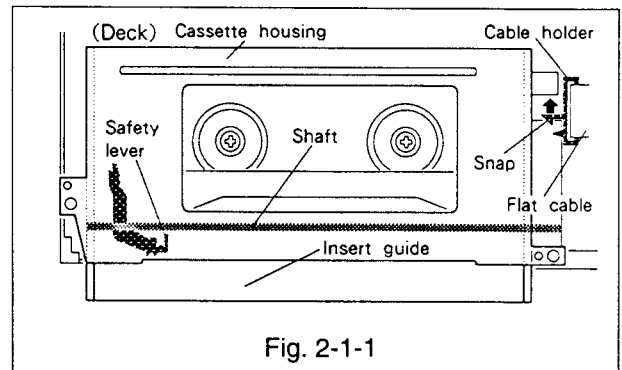

Fig. 2-1-1
2-1-1 Removal(Refer to Fig. 2-1-1~2-1-2.)
- Unfasten the snap of the cable holder and remove the cable holder from the cassette housing as shown in Fig.2-1-1.
2-1-2 Installation(Refer to Fig.2-1-1~2-1-3.)
- Slowly lower the cassette housing onto the main plate of the deck so that the safety lever enters between the insert guide and the shaft as shown in Fig. 2-1-1. Align the two positioning holes [(e) and (f)] and the two U holes [(g) and (h)] located on the cassette housing with the matching holes in the deck.